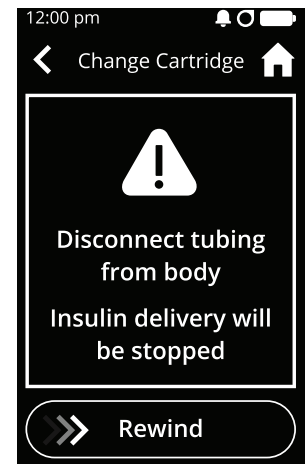

Figure 60
- Drag the Rewind slider to the right (see Figure 60).